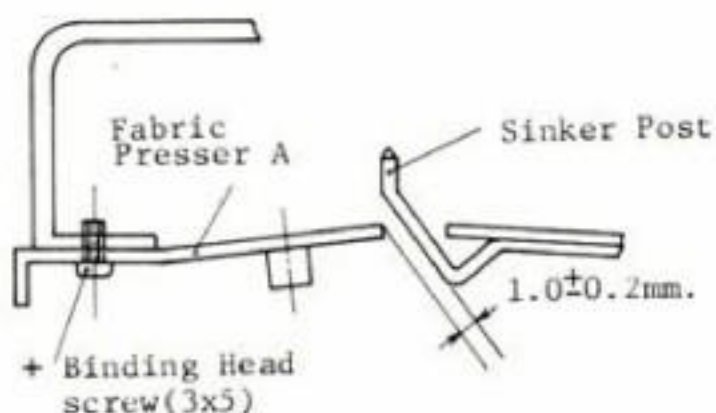

Fig. 160
- 4) Loosen two + Bind Head Screws 3 x 5, move the Fabric Presser A back and forth, and adjust within the specified sizes. (Fig.160)